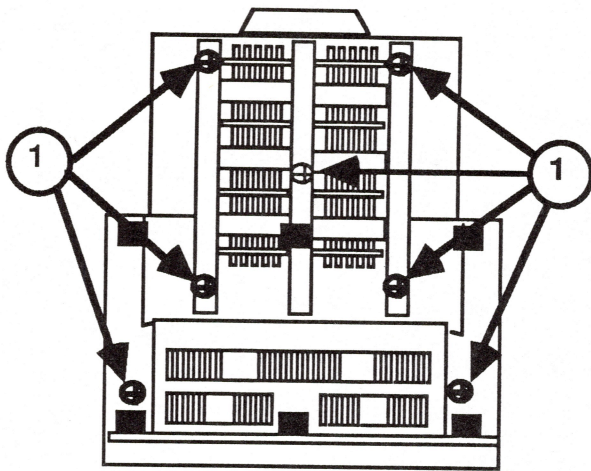

FIGURE 5
4. Remove the seven screws (Figure 5, #1) from the bottom of the monitor.